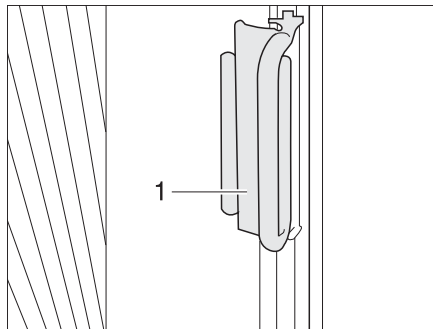

Fig. 11 Handle for Roman shades on driver's/front passenger's windows
- On the Roman shades for the driver's and passenger's window, push the handle (Fig. 11,1) onto the cap. The Roman shade is secured.